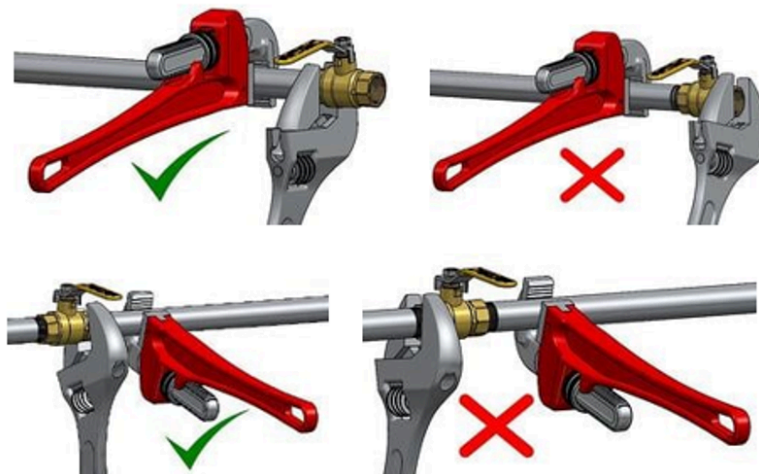

Figure 3. Wrenching ball valves
- Figure 3. “Wrenching ball valves (<https://blog.boshart.com/how-to-install-a-threaded-ball-valve>)” from Boshart Industries is used for educational purposes under the basis of fair dealing.